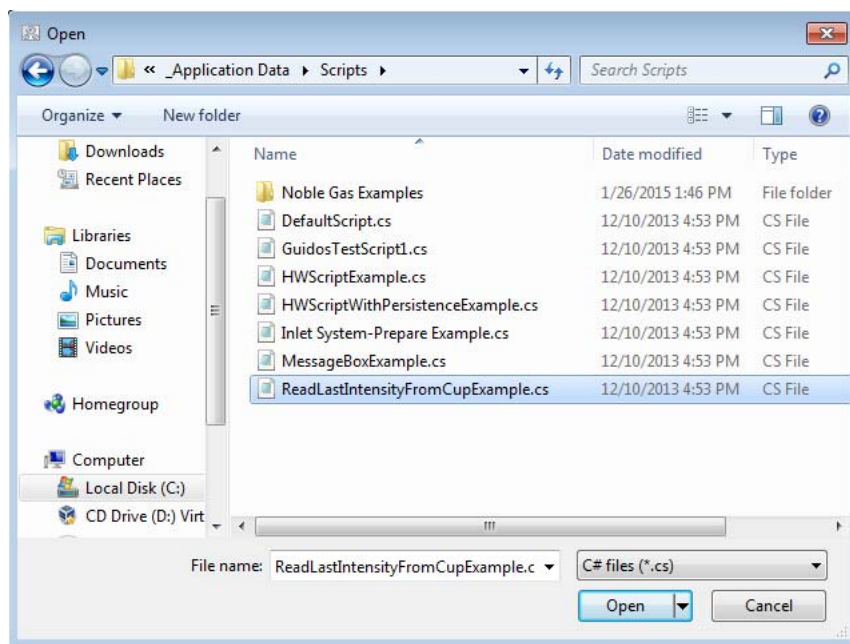

Figure 3-42. Opening a script from Instrument Control
4. Click **Open Script** to select a Qtegra script from the installation folders, see Figure 3-42.